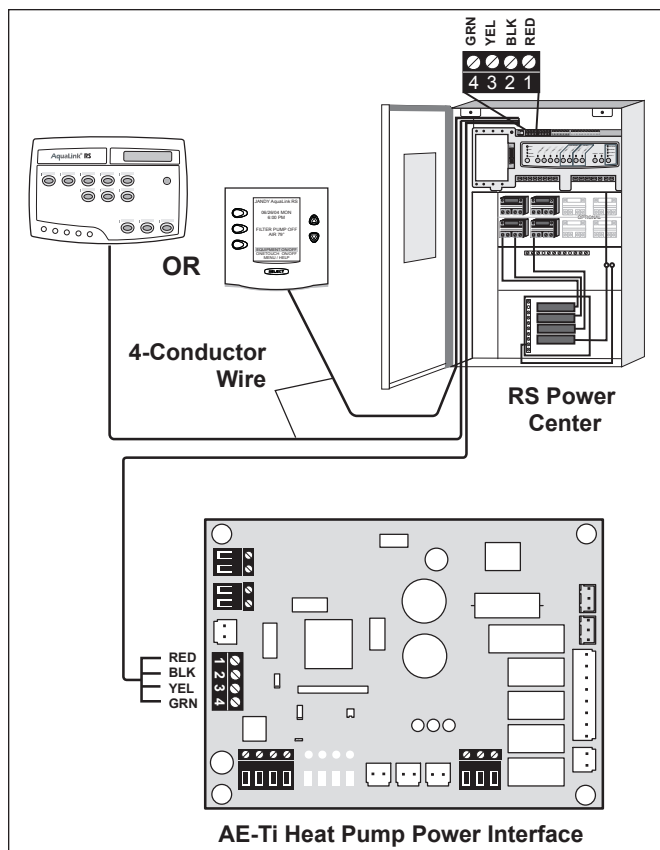

Figure 14. EE-Ti Heat Pump Connection to Power Center
1. Confirm the EE-Ti heat pump and AquaLink RS software revisions are compatible (see Figure 14).